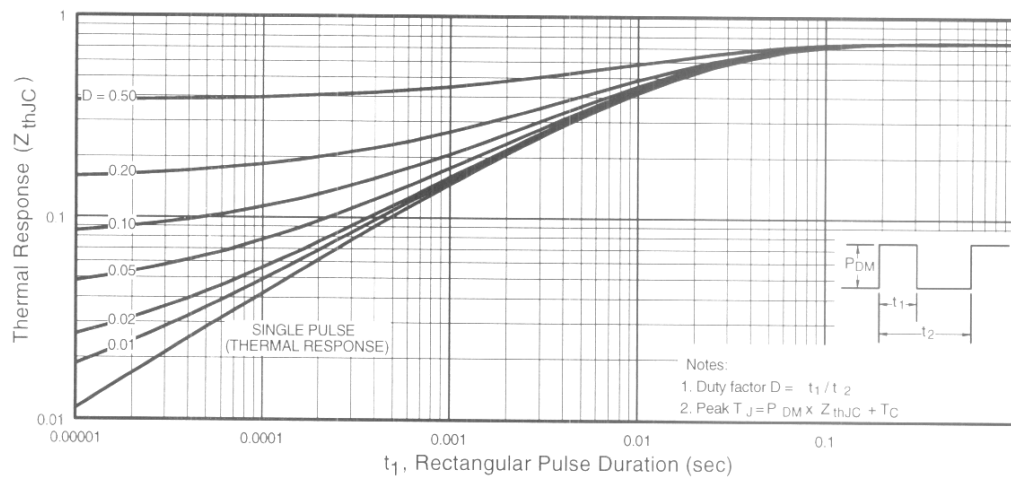

Fig 11. Maximum Effective Transient Thermal Impedance, Junction-to-Case
- ① Repetitive rating; pulse width limited by max. junction temperature. (See fig. 11)
② $V_{DD} = 25V$, starting $T_J = 25^\circ\text{C}$, $L = 1.2\text{mH}$